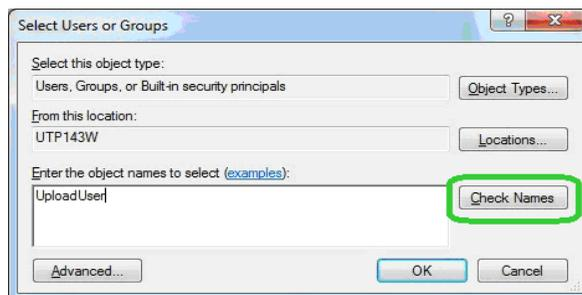

FIGURE 2-27 Select User or Groups - Upload User
Step 25 In the **Enter the object names to select**, type in the name of the user account, or the default name **UploadUser**, if applicable, as shown in **FIGURE 2-27**.